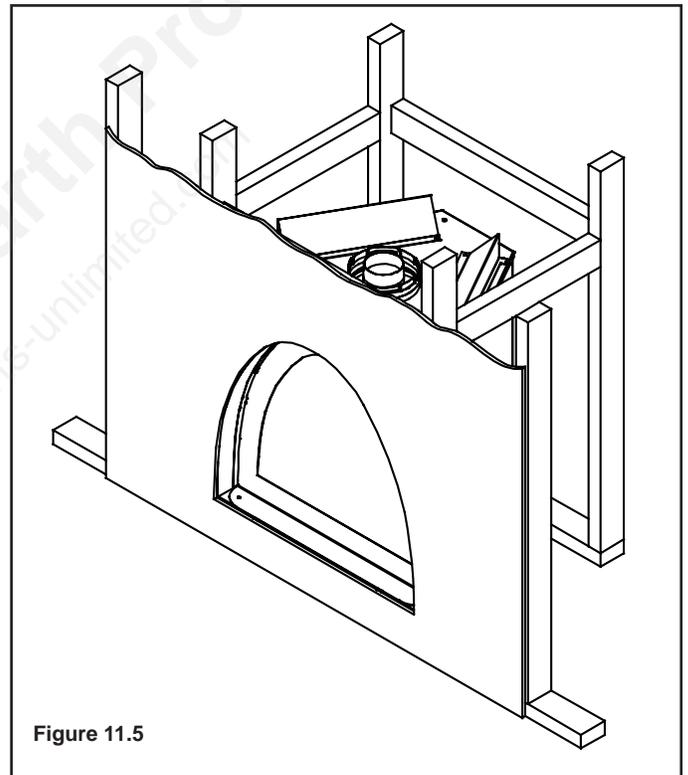

Figure 11.5
The second installation option requires the construction of a kiva-style arch. This option recesses the unit into the wall such that construction of a hearth is not necessary (see Figure 11.5).
- Framing depth increases from that shown in Figure 3.2, (Dimension C). Dimension C will vary depending on the depth of the desired kiva-style arch (see Figure 11.5).